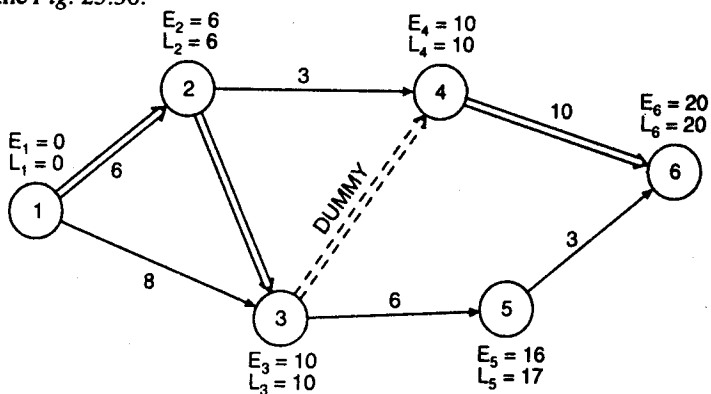

Fig. 25.30
**Solution.** (i) Network is shown in the Fig. 25.30.